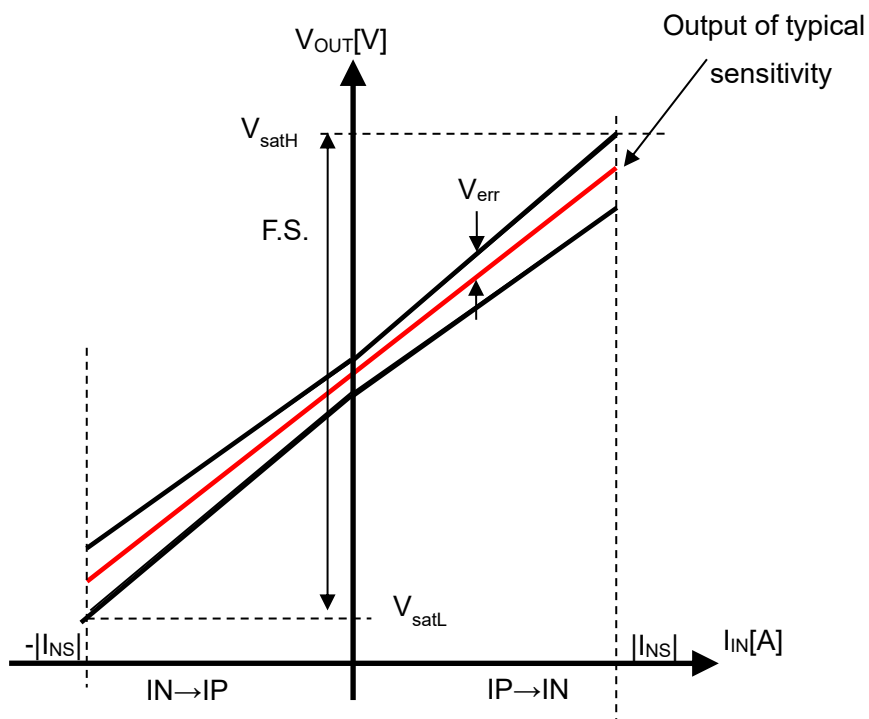

Figure 4. Total Accuracy of CZ-3AG6
10.2. Total Accuracy  $E_{total}$  [%F.S.] is defined as below (See Figure 4.)